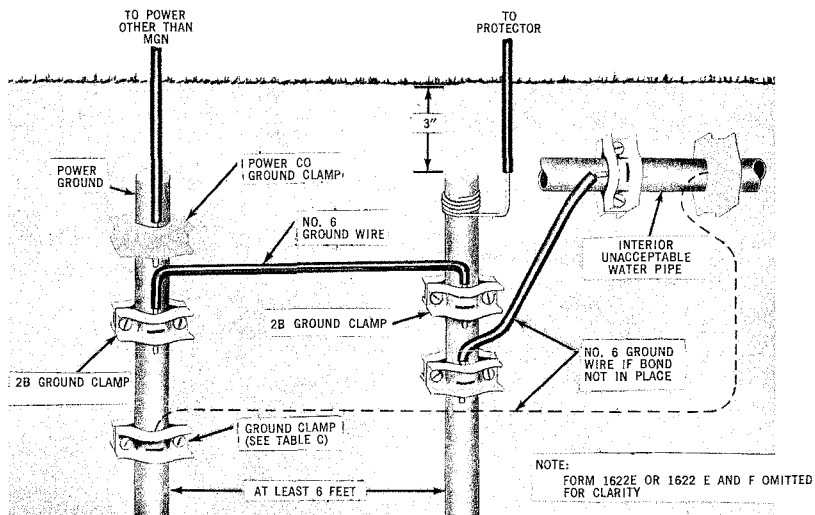

Fig. 30 — Power Other Than MGN Grounded to Grounded Rod Unacceptable Interior Water Pipe
- (a) If an acceptable public or private water system is available and the power service is grounded to a ground rod, connect the telephone protector to the metallic water system. In addition, a No. 6 station ground wire should be bonded to the interior metallic water pipe and the power ground rod. (Fig. 30)
- (e) At least 6 feet from power service, or lightning ground rod. (Fig. 30 and 31).